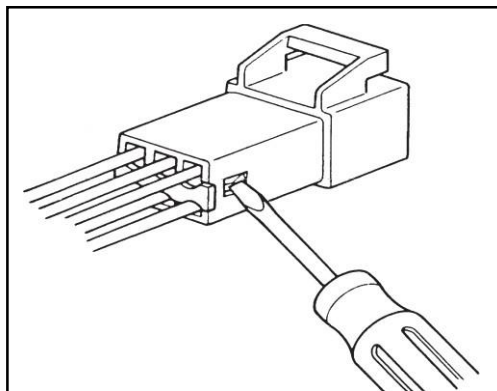

Figure 22
- To remove a TPA lock — Using a small screwdriver or pick, carefully depress the locking tabs on either side of the connector. (See Figure 22.) Remove the TPA lock from the back side of the connector.